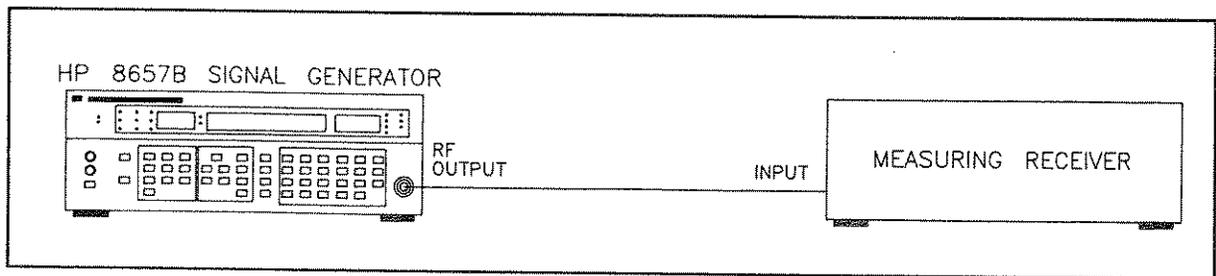

Figure 4-7. Modulation Test Setup
1. Connect the RF OUTPUT of the HP 8657B to the input of the measuring receiver as shown in Figure 4-7.